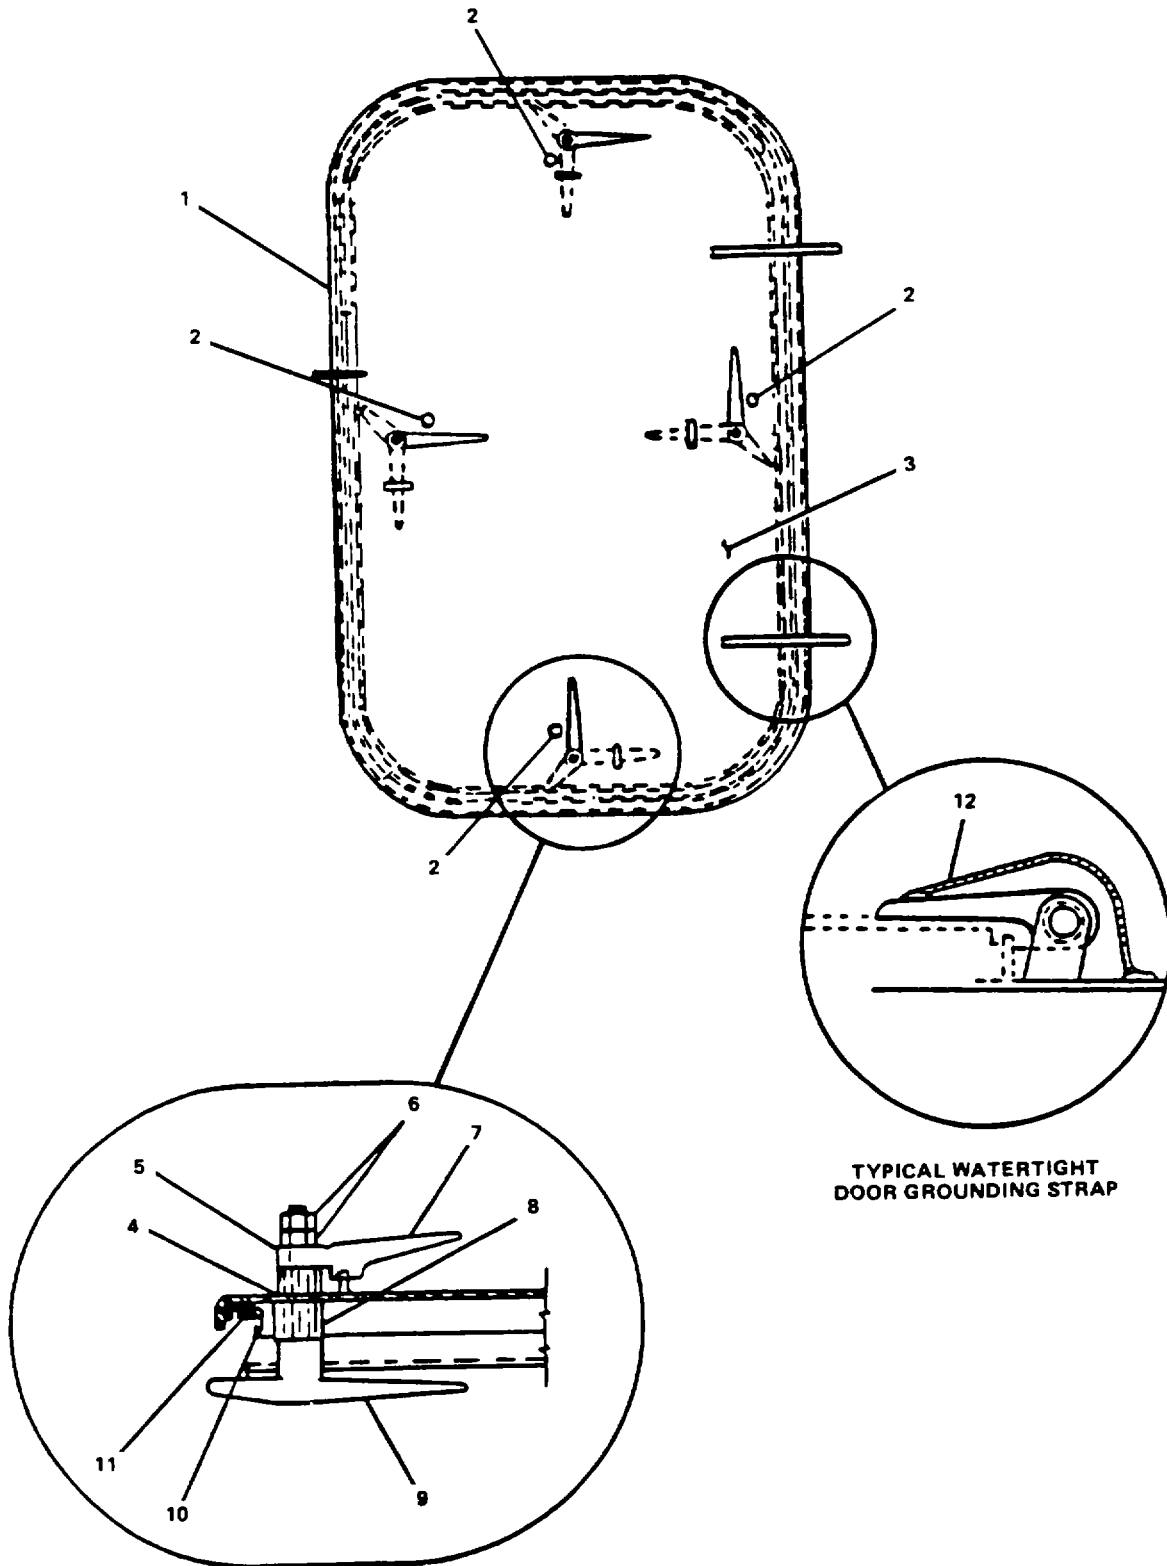

Figure 2-32. Repair Waternight Door, Four Dogs.
a. Remove hex nuts (6, Figure 2-32) and handles (7) from door (1).
b. Remove bronze bushing (5) and preformed packing (4) from door.
c. Remove dog door closer (9) from door.
d. Remove gasket (11) from door.
Repair at this level of maintenance is by replacement of gasket (11, Figure 2-32), preformed packing (4), and oilite bronze bushings